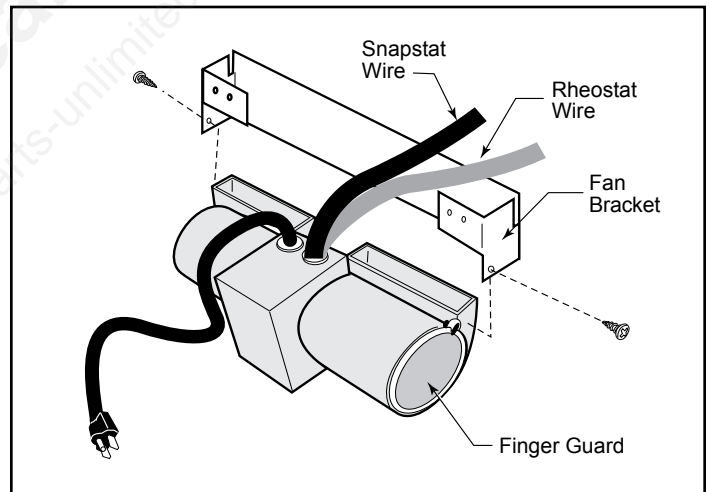

Figure 68 - Attach the fan assembly to the fan bracket.
1. Attach the fan assembly to the bracket provided in the log box using the #10 sheet metal screws provided with fan kit. Do not remove finger guard screws. (Figure 68)